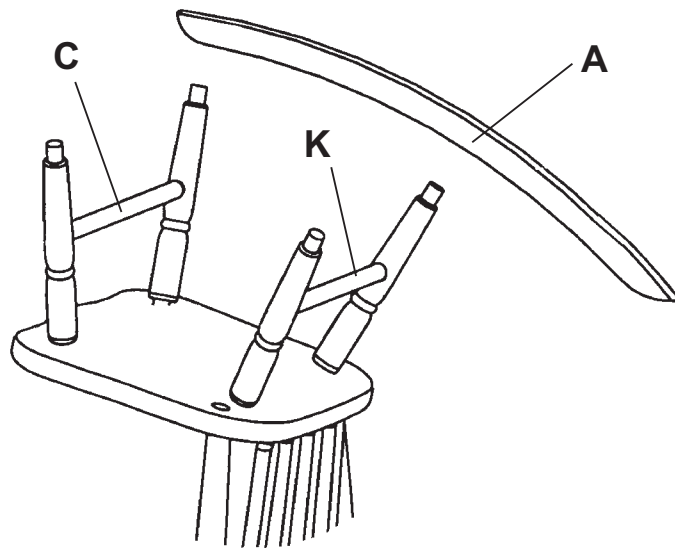

Fig. 5
5. Spread glue in the holes of the Rocker Runners (A). To put the runners on the legs, place the front hole on the front leg first, and the back hole on the back leg. There should be a little give if the holes don't quite line up, so that the back leg can be pushed slightly toward the front leg. See Figure 5.